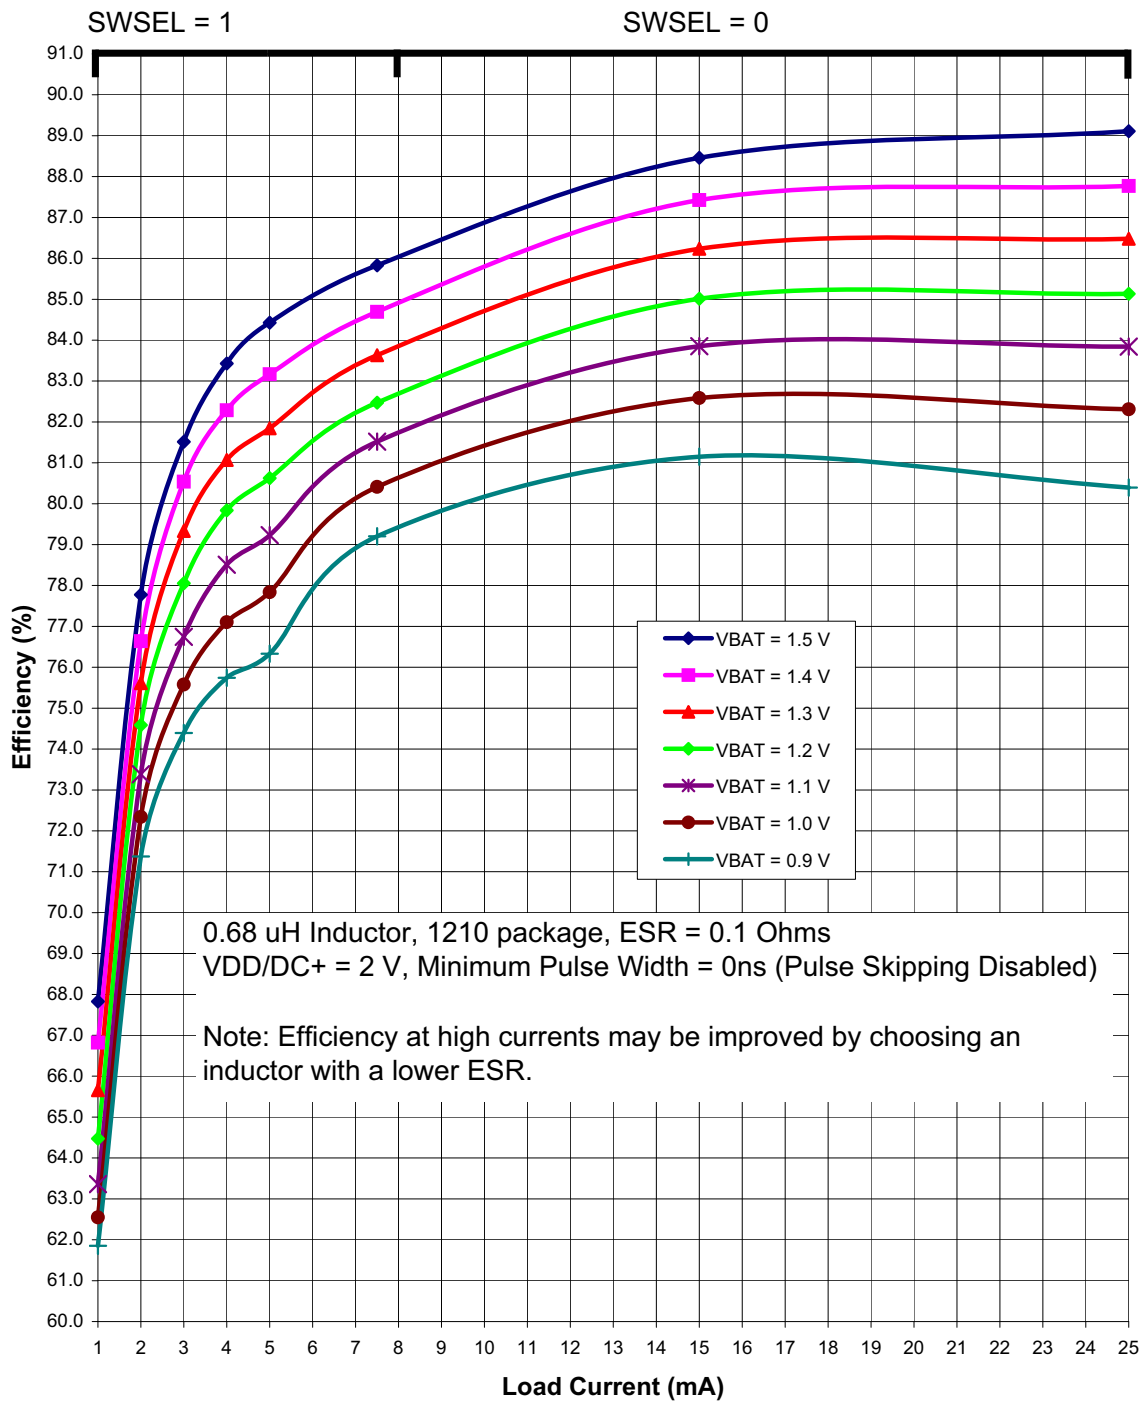
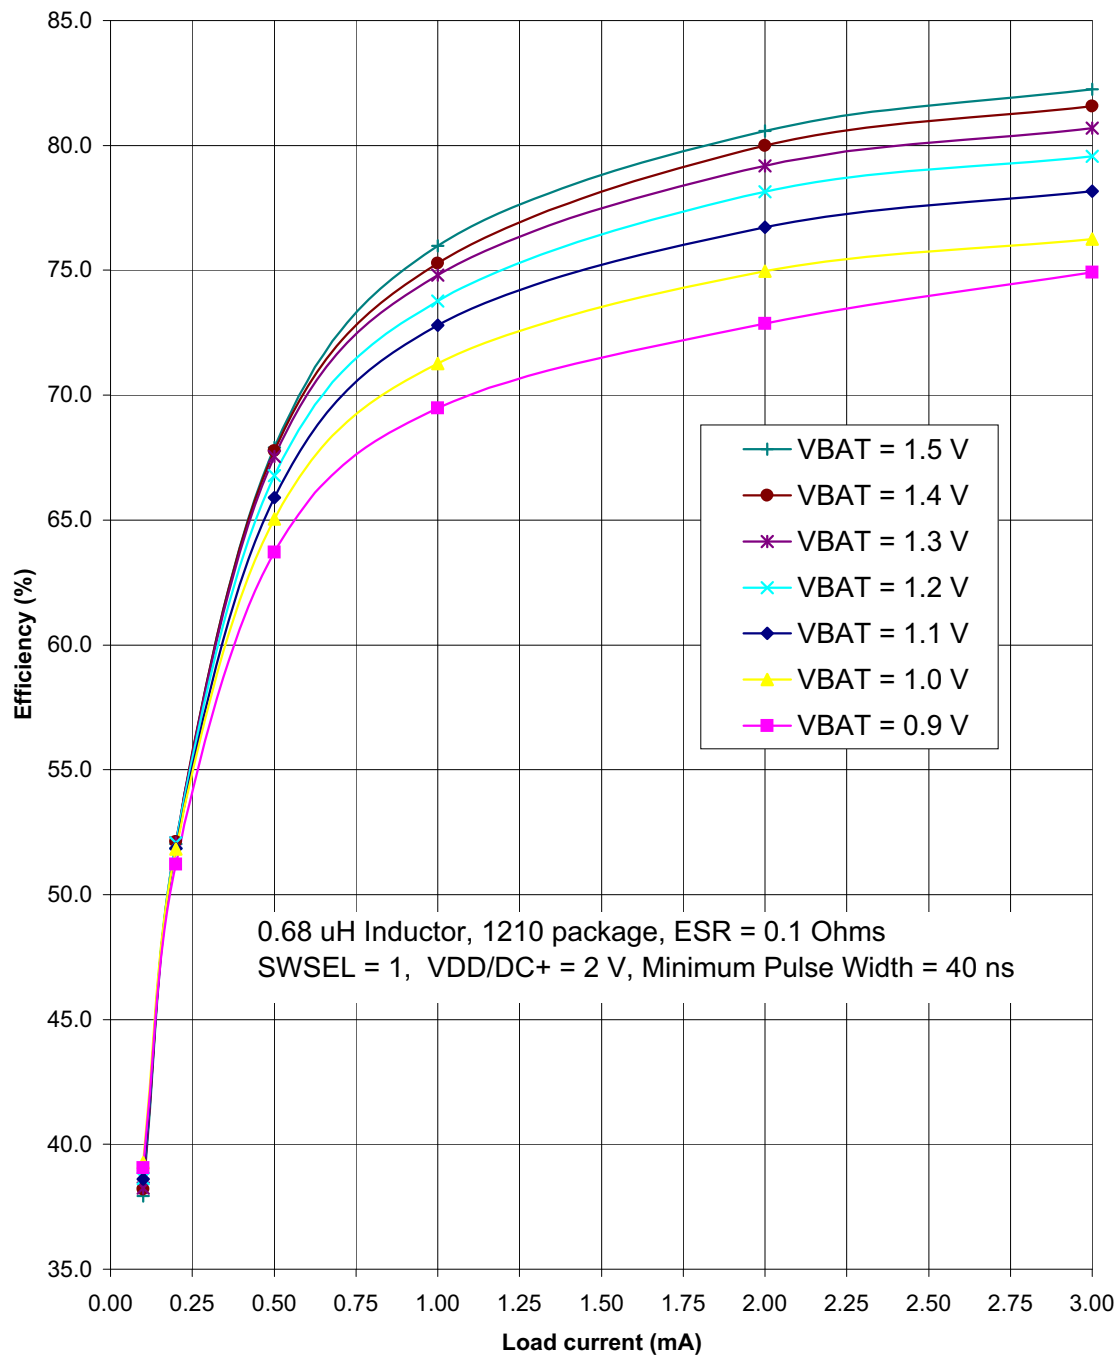

Figure 4.3. Typical DC-DC Converter Efficiency (High Current, VDD/DC+ = 2 V)
Figure 4.5. Typical DC-DC Converter Efficiency (Low Current, VDD/DC+ = 2 V)
Notes: <ol style="list-style-type: none"> Based on device characterization data; Not production tested. SYSCLK must be at least 32 kHz to enable debugging. Digital Supply Current depends upon the particular code being executed. The values in this table are obtained with the CPU executing an "sjmp \$" loop, which is the compiled form of a while(1) loop in C. One iteration requires 3 CPU clock cycles, and the flash memory is read on each cycle. The supply current will vary slightly based on the physical location of the sjmp instruction and the number of flash address lines that toggle as a result. In the worst case, current can increase by up to 30% if the sjmp loop straddles a 128-byte flash address boundary (e.g., 0x007F to 0x0080). Real-world code with larger loops and longer linear sequences will have few transitions across the 128-byte address boundaries. Includes oscillator and regulator supply current. IDD can be estimated for frequencies ≤ 10 MHz by simply multiplying the frequency of interest by the frequency sensitivity number for that range, then adding an offset of 90 μA. When using these numbers to estimate I_{DD} for >10 MHz, the estimate should be the current at 25 MHz minus the difference in current indicated by the frequency sensitivity number. For example: $V_{DD} = 3.0$ V; $F = 20$ MHz, $I_{DD} = 4.1$ mA – $(25 \text{ MHz} - 20 \text{ MHz}) \times 0.120 \text{ mA/MHz} = 3.5$ mA. The Supply Voltage is the voltage at the VDD_MCU pin, typically 1.8 to 3.6 V (default = 1.9 V). Idle IDD can be estimated by taking the current at 25 MHz minus the difference in current indicated by the frequency sensitivity number. For example: $V_{DD} = 3.0$ V; $F = 5$ MHz, Idle $I_{DD} = 2.5$ mA – $(25 \text{ MHz} - 5 \text{ MHz}) \times 0.095 \text{ mA/MHz} = 0.6$ mA. The supply current specifications in Table 4.2 are for two cell mode. The VBAT current in one-cell mode can be estimated using the following equation: $\text{VBAT Current (one-cell mode)} = \frac{\text{Supply Voltage} \times \text{Supply Current (two-cell mode)}}{\text{DC-DC Converter Efficiency} \times \text{VBAT Voltage}}$ <p>The VBAT Voltage is the voltage at the VBAT pin, typically 0.9 to 1.8 V. The Supply Current (two-cell mode) is the data sheet specification for supply current. The Supply Voltage is the voltage at the VDD/DC+ pin, typically 1.8 to 3.3 V (default = 1.9 V). The DC-DC Converter Efficiency can be estimated using Figure 4.3–Figure 4.5.</p> The EZRadioPRO peripheral is placed in Shutdown mode.